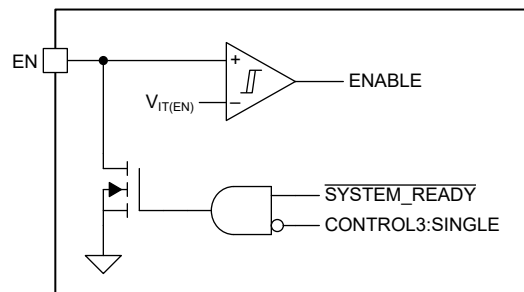

Figure 7-10. Enable Functional Block Diagram
The Enable (EN) pin is bidirectional and has two functions. See Figure 7-10: